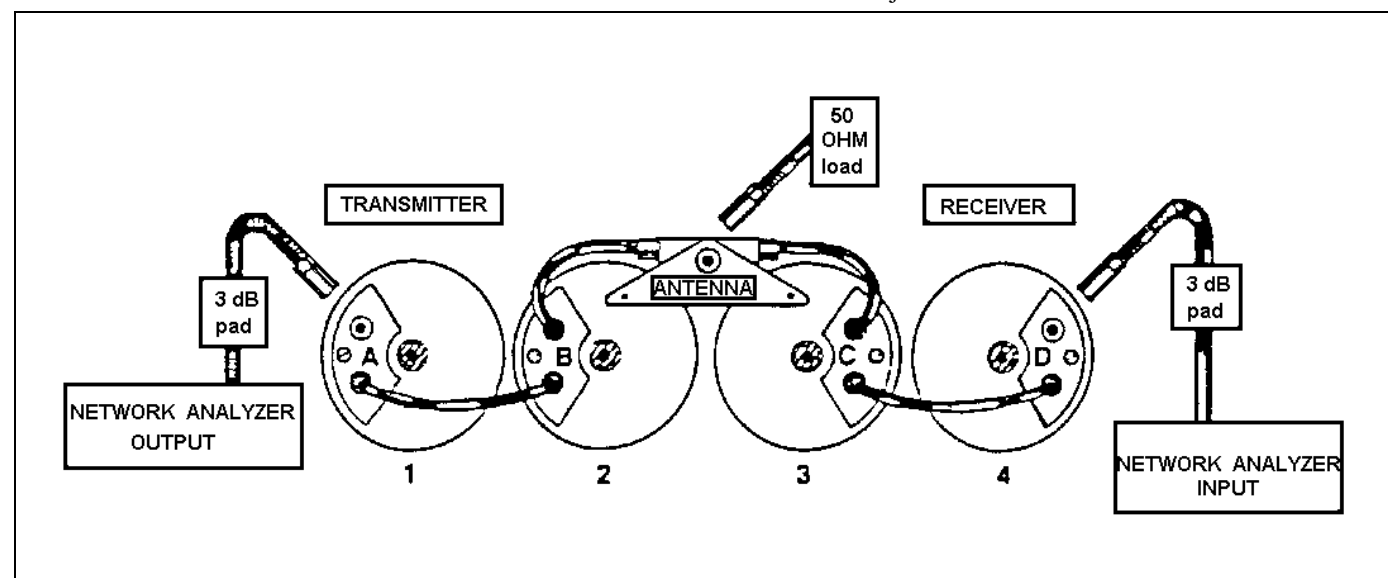

Figure 4
15. Connect the output of the network analyzer (or tracking generator) to the transmit port of the duplexer and the input of the network analyzer (or spectrum analyzer) to the receive port of the duplexer. Terminate the antenna port of the duplexer with a known good 50 ohm load termination. (See Figure 4.)